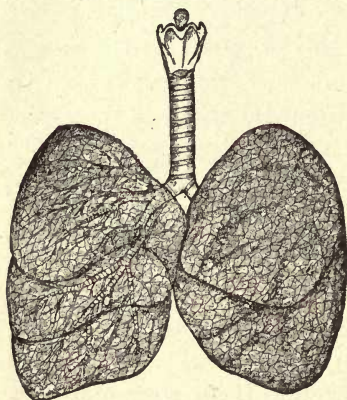

FIG. 88. — The Lungs.
**The Lungs.** — The lungs are two pinkish gray organs of light, spongy appearance (Figure 88). They are located in the chest cavity. Each lung is surrounded